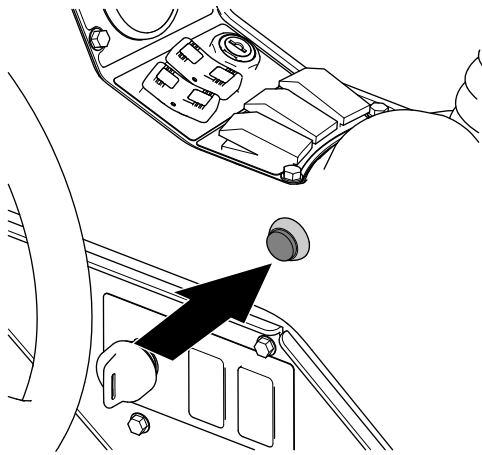

Figure 280
7. On the machine, press the master-section switch to the ON position (Figure 280).